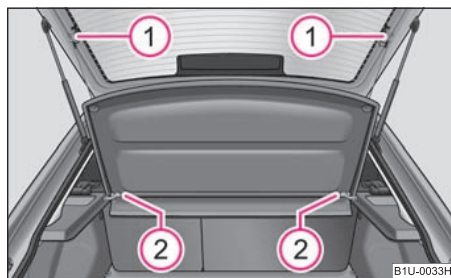

Fig. 76 Removing the luggage compartment cover
- Unhook the support straps on the boot lid ① ⇒ fig. 76.
- Pull the cover out of the holder ② horizontally to the rear.
- Install again by pushing the luggage compartment cover forwards into the holder ② and hanging the support straps ① on the boot lid.